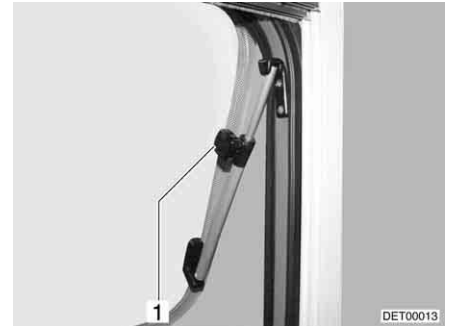

Fig. 83 Skylight with rotary hinges, open
■ Open the skylight until the required position has been reached and use knurled knob (Fig. 83,1) to secure in position.
*Closing:* ■ Turn knurled knob (Fig. 83,1) until the latch is released.